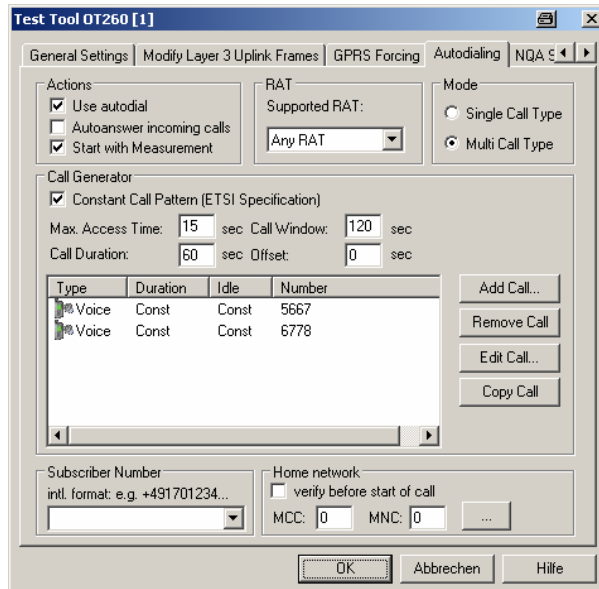

Fig. 6-22 Driver Configuration – Autodialing tab (Sagem x6, multi call type)
- A multi call is a sequence of calls with individual call settings, to be configured in the multi call version of the *Autodialing* tab (see Fig. 6-22 on p. 6.51). The call sequence is periodically repeated if *Use autodial* is selected.